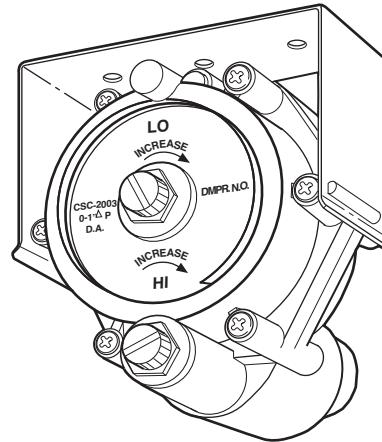

Fig. 9 — Pneumatic Volume Controller (Normally Open) for 35EP Unit (Beige Color)
- b. Adjust the minimum volume control knob (marked "LO" and located in the center of the controller) shown in Fig. 9 to achieve the required minimum flow. To determine the required pressure differential, refer to Tables 2 and 5 and the Linear Averaging Probe Chart provided on the side of the VAV unit and in Fig. 7.